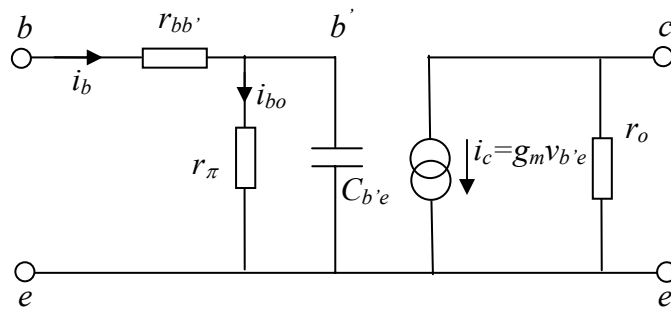

Figure 3a
3. a. Figure 3a shows a simplified small signal equivalent circuit for a bipolar transistor. Explain the physical origin of the circuit components, using a sectional sketch of the bipolar transistor where necessary.
- b. Using figure 3a, derive an expression for the small circuit current gain,  $h_{fe}$ , as a function of frequency. Identify the low frequency and high frequency gain and, by setting the latter to unity derive an expression for the unity gain cut-off frequency,  $f_T$ , in terms of the parameters in the figure and from this interpret the total electron transit time through the device,  $\tau_{ec}$ .